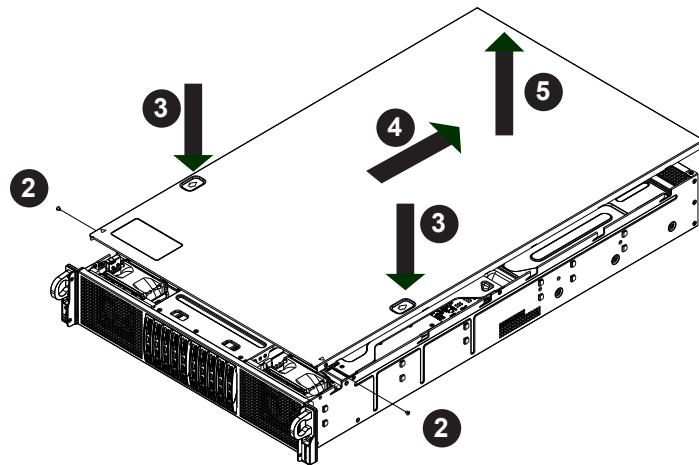

Figure 3-1. Removing the Chassis Cover
4. Lift the cover up and off of the chassis. See Figure 3-1.